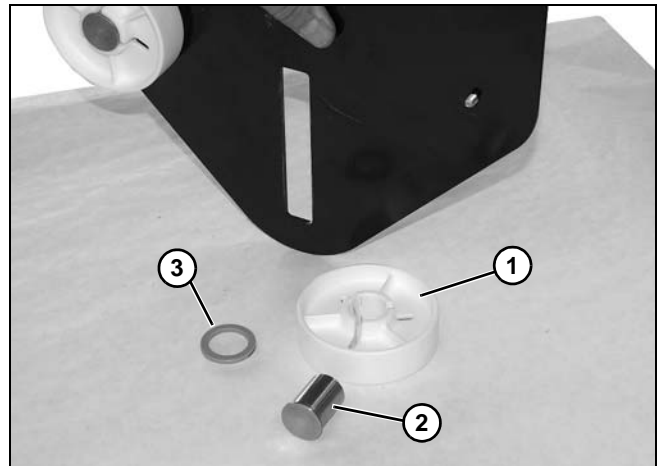

Figure 109
9. On opposite side of socket head screw just removed, remove idler puck (Figure 109, item 1), idler stub (Figure 109, item 1), and spacer (Figure 109, item 2).